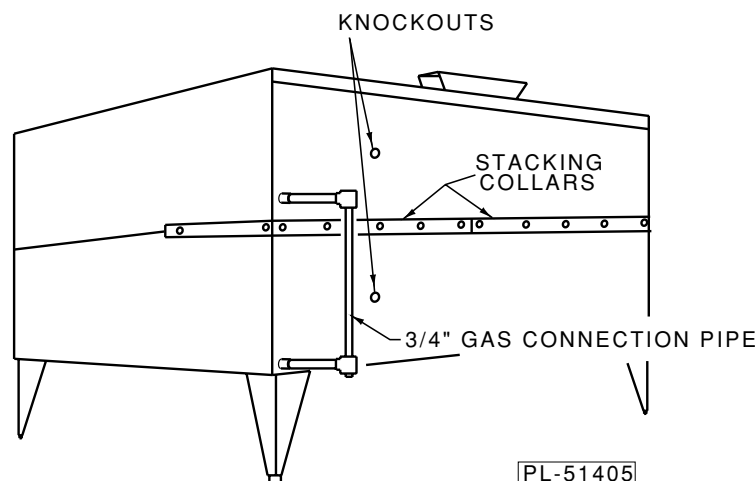

Fig. 2
2. Secure both ovens together with 1 right and 1 left stacking collar (Fig. 2). Fasten collars to ovens using 14 #10-24 screws provided.
3. Install the $\frac{3}{4}$ " gas connection pipe (Fig. 2).
To install the nozzle(s), remove the knockout(s) (Fig. 2) from the back of the oven and the plug(s) from the oven cavity. Insert the nozzle(s) provided.